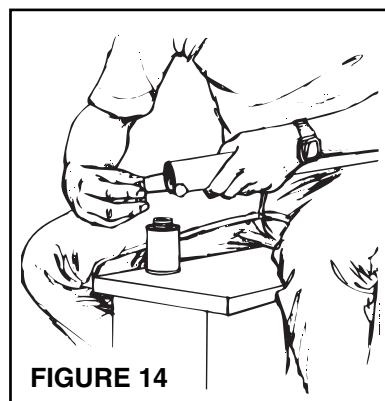

FIGURE 14
11. Refer to Figure 14. Apply PVC cement (Model 379) to outside of tubing. Coat tubing approximately 1" back. Take care to keep cement from inside of tube.